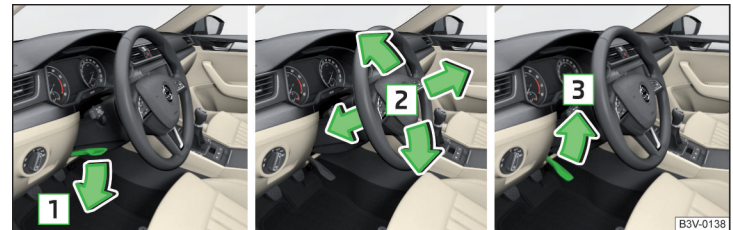

Fig. 3 Adjusting the steering wheel position
- ▶ Swing the safety lever under the steering wheel in the direction of arrow **1** » Fig. 3.